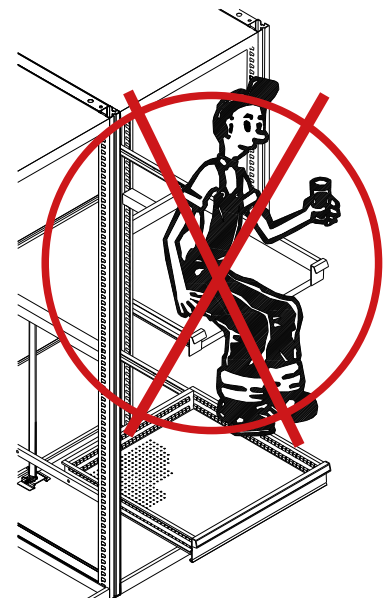

Fig. 3)
- sitting on the fixed shelves of the pull-out shelves or drawers (fig. 3).